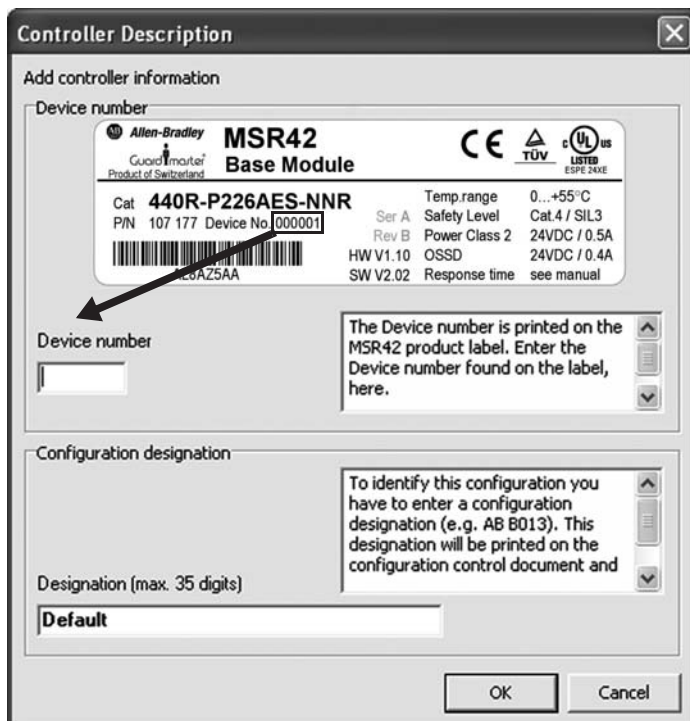
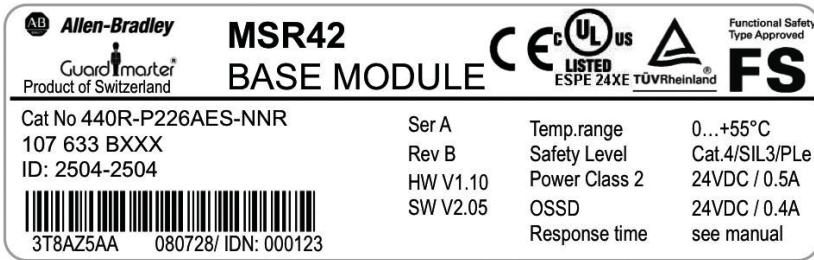

Figure 45: Input of device no. and designation
Figure 46: Device no. printed on label
7. The “Controller Description” window opens (Figure 45) and requests the MSR42 device no. and a “designation.” The device no. can be found on the label of the control unit (Figure 46). Enter this information and press “OK” button.